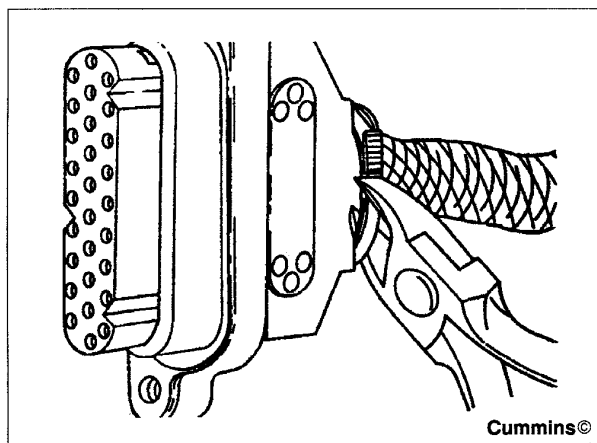

Figure 66 Remove Plastic Tie
1. With the AMP connector removed from the ECM, cut and remove the plastic wire tie that holds the cover to the connector body (Figure 66).